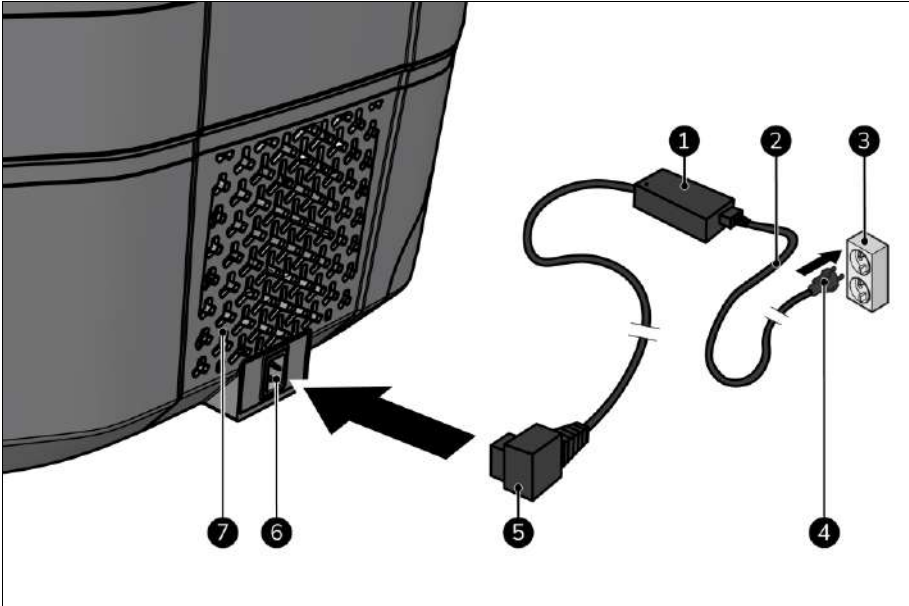

Figure 5
2. Make sure that all three ventilation grills (Figure 5, pos. 7) have at least 5 cm of ventilation space.
3. Place the AC cable (Figure 5, pos. 2) into of the AC/DC adapter (Figure 5, pos. 1).
4. Place the AC/DC adapter plug (Figure 5, pos. 5) into the power supply of the device (Figure 5, pos. 6).
5. Place the power plug (Figure 5, pos. 4) into an easily accessible wall socket (Figure 5, pos. 3).